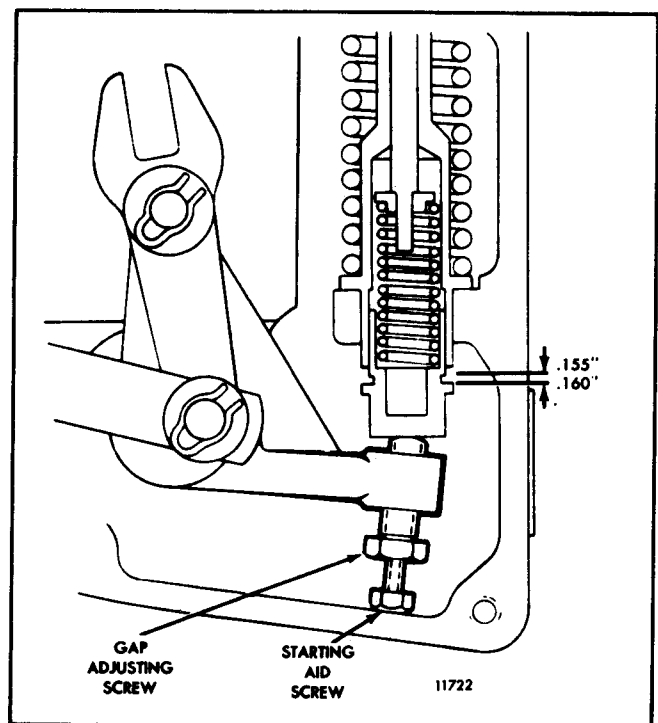

Fig. 14 - Adjust Starting Aid Screw
NOTE: With the engine stopped, this adjustment will provide a gap of .155" to .160" between the high-speed spring plunger and the low-speed spring cap (Fig. 14).
2. With the engine at operating temperature and no load on the engine, place the speed control lever in the *maximum speed* position. Turn the high-speed spring retainer in (Fig. 14) until the engine is operating at